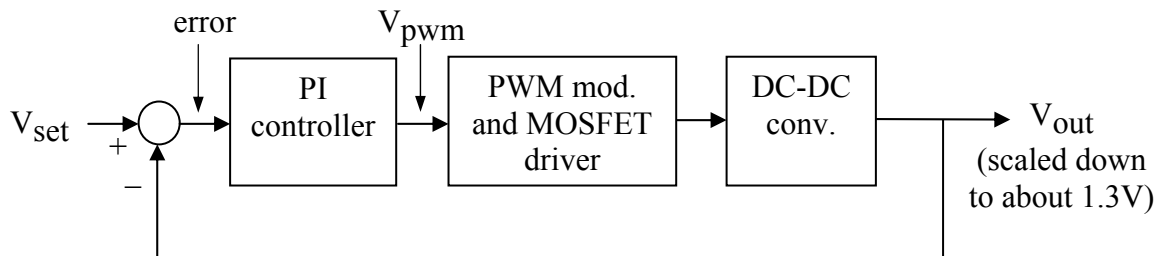

Figure 2. Block Diagram with Feedback Loop and PI Controller
- Close the feedback loop by **removing the feedback grounding wire**. Note - the light bulb will dim because V_{out} in Figure 2 will subtract from V_{set} and reduce the error voltage that feeds into the proportional control. Expect V_{out} to drop to about 40V.